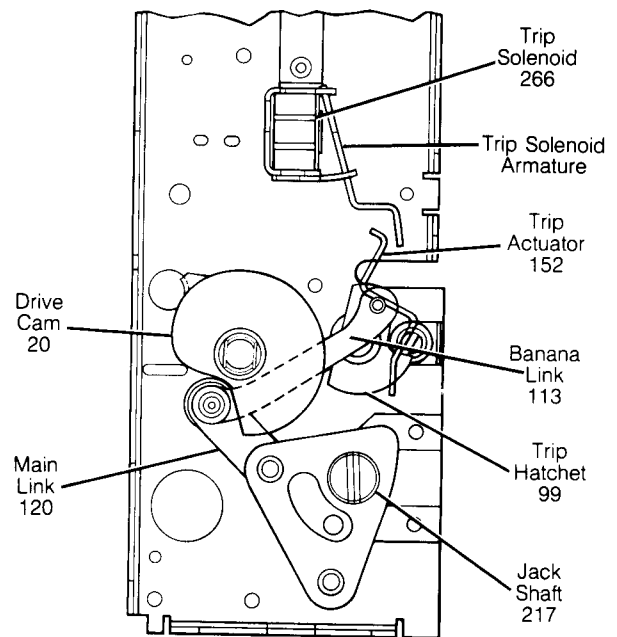
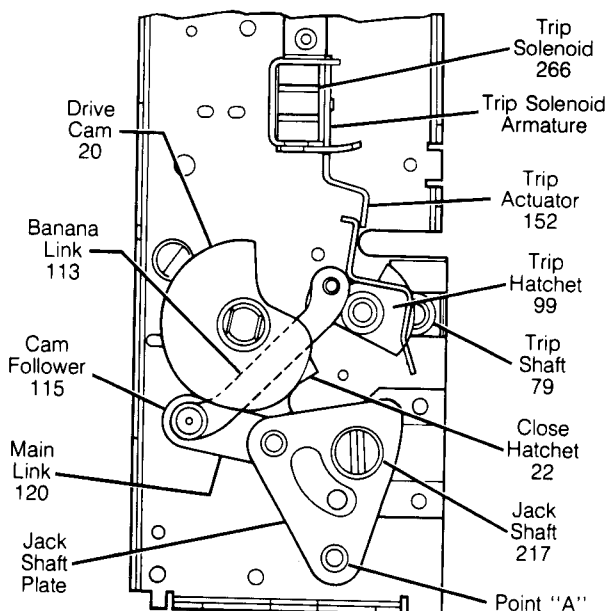
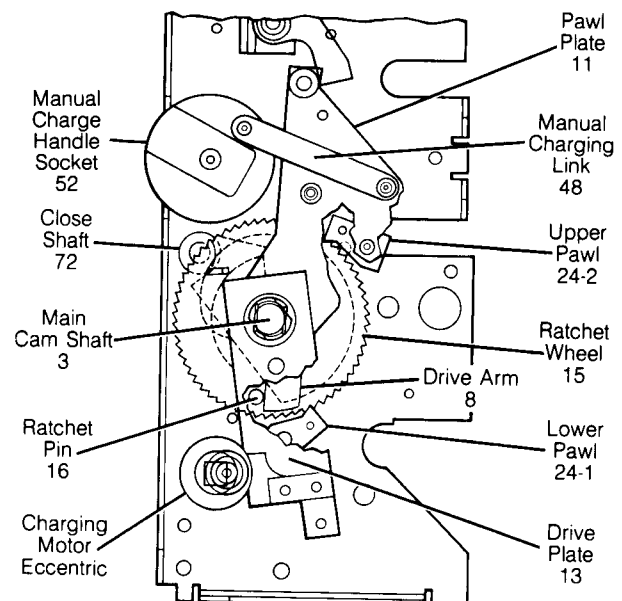

Figure 16. Breaker Open—Closing Springs Charged.
Figure 15. Breaker Open—Closing Springs Discharged.
Figure 17. Pawl and Ratchet Drive.
Figures 15 and 16 show several key components of the operator mechanism in positions corresponding to the breaker open, with the closing springs discharged (Figure 15) and charged (Figure 16). Figure 17 shows portions of the operator mechanism that manually or electrically
Figure 17 shows the ratchet wheel (15) which is free to rotate about the main cam shaft (3). The ratchet wheel is driven by either the charging motor or the manual charge handle socket (52). When the springs are charged electrically, the motor eccentric (100) introduces a rocking motion into the drive plate (13). As this plate rocks back and forth, the lower pawl (24-1) (which is connected to the drive plate) imparts counterclockwise rotation of the ratchet wheel (15), one tooth at a time. The upper pawl (24-2) acts as a holding pawl during electrical charging.
If at any time during breaker closing, the trip shaft (79), see **Figure 15**, operates as a result of either an electrical or mechanical trip, trip hatchet (99) is free to rotate. When the trip hatchet (99) rotates, cam follower (115) is displaced by drive cam (20) without motion of the jack shaft (217). Mechanical trip free operation is provided by manual tripping, electrical tripping and/or the mechanical interlocks.
Opening or tripping the vacuum interrupter contacts is accomplished by rotation of the trip shaft (79). Rotation may be produced either electrically, by energizing the trip solenoid (266), see **Figure 16**, or manually by pressing the trip button. Energizing the trip solenoid causes the upper arm of the trip actuator (152) to rotate counterclockwise. Pressing the trip button causes the trip actuator lower arm to move, again producing rotation of the trip shaft. All of the linkages are trip free, and tripping or opening is unaffected